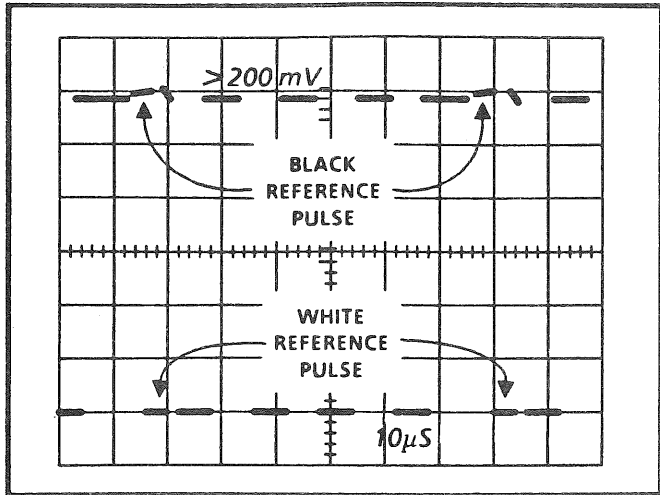

Fig. C-4. Location of 650HR-C black and white reference pulses.
3. Use the Volts/Div Variable control to set the black reference pulse-to-white reference pulse distance to six divisions. See Figure C-4.
4. ADJUST - R9238 so the color bar white level is six major and 2.5 minor divisions from the 650HR-C Series CHANNEL 1 black reference. See Figure C-4 for the location of the black and white reference pulses.